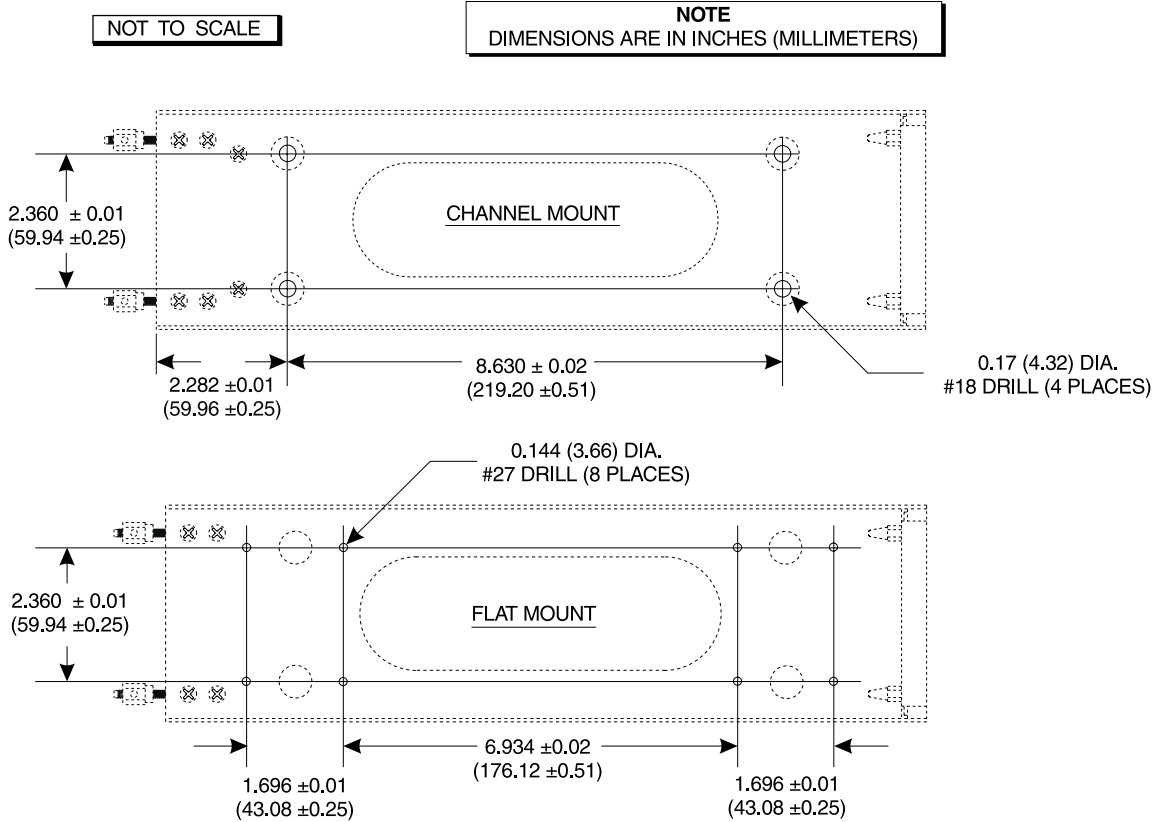

Figure 2-10. Mounting Holes for Standard Mounting Tray, P/N 805-10870-001
2. Determine centers for mounting holes, and drill for required fasteners. See figure 2-10 (standard tray) or 2-11 (ruggedized tray).